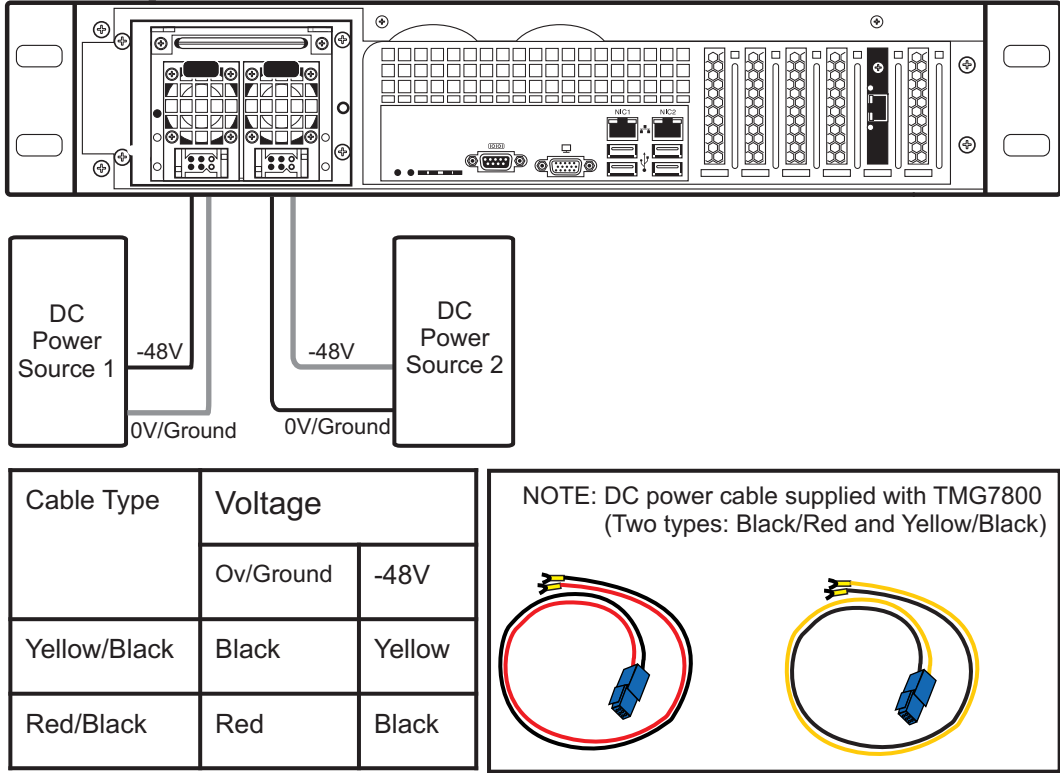

Figure 2.21 TMG7800-CTRL DC Power Connections
1. Connect the first DC power connector of the TMG7800-CTRL to DC power source one. See figure 2.21 on page 27.